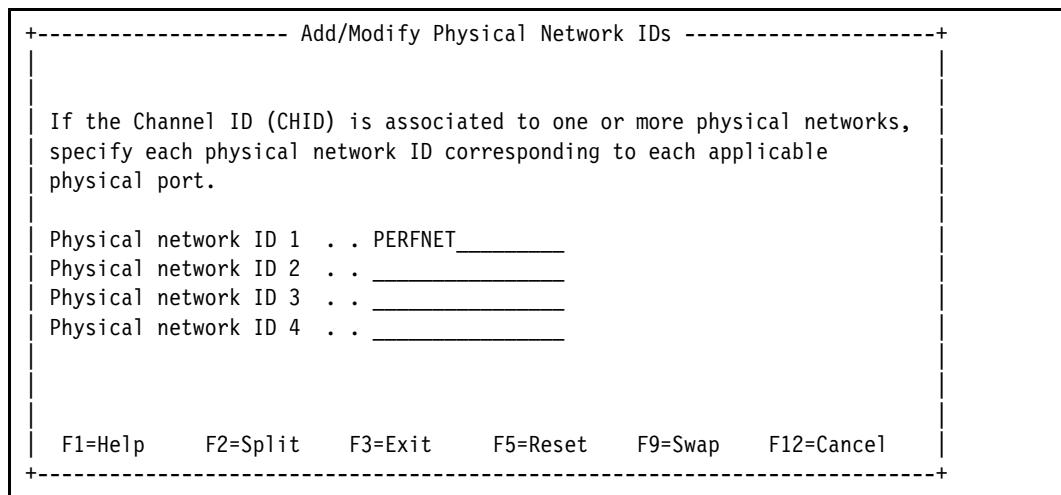

Figure 15-4 Add/Modify Physical Network IDs: Adding network ID, ISM
- Enter the following value in the Add/Modify Physical Network IDs panel (Figure 15-4) and press **Enter**: